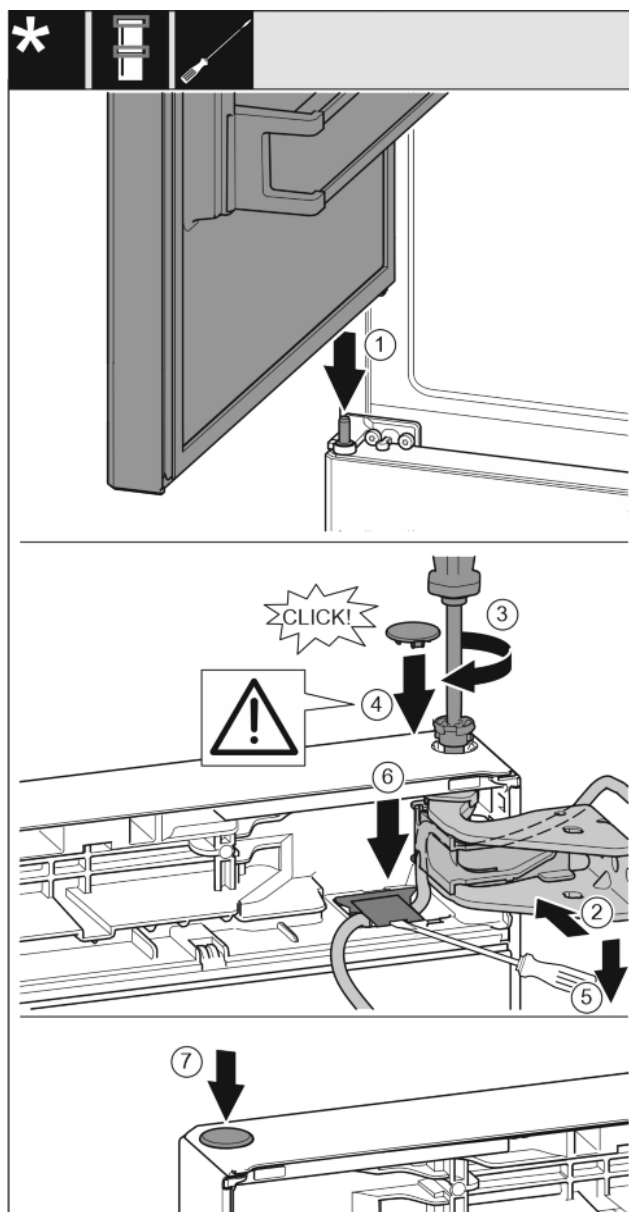

Fig. 33
- Place the upper door on the centre bearing pins Fig. 33 (1)
- Align the top of the door with opening in the bearing bracket. Fig. 33 (2)
- Insert the bolt and tighten with a T15 screwdriver. Fig. 33 (3)
- Fit the protective cover to protect the door: Insert the protective cover and check that it is flush to the door. If not, insert the bolt fully. Fig. 33 (4)
- Lift up the cover with a screwdriver and pull it out. Afterwards, place the cable underneath. Fig. 33 (5)
- Place on the cover again and press it down until it latches into place. Fig. 33 (6)
- Insert the plugs. Fig. 33 (7)